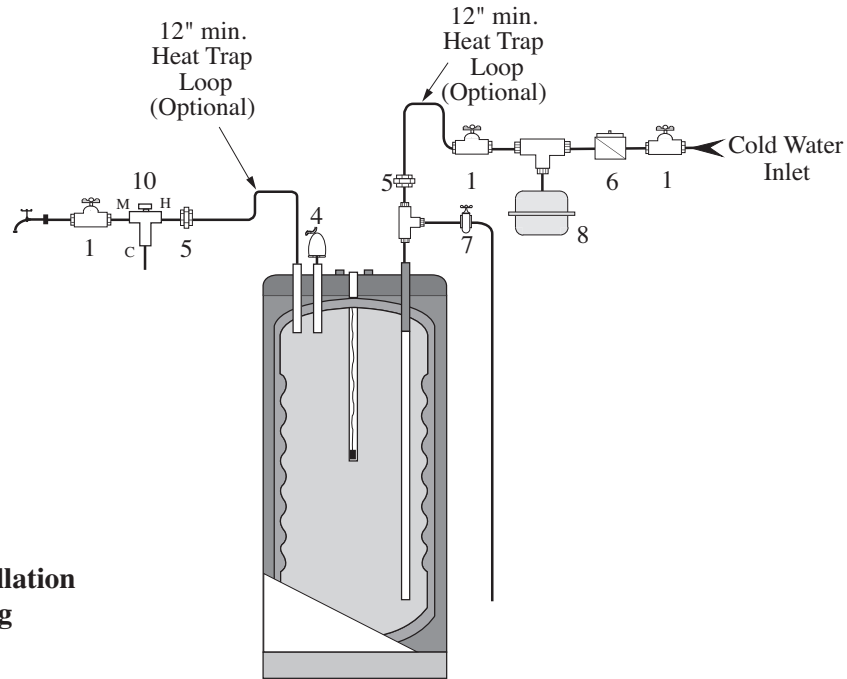
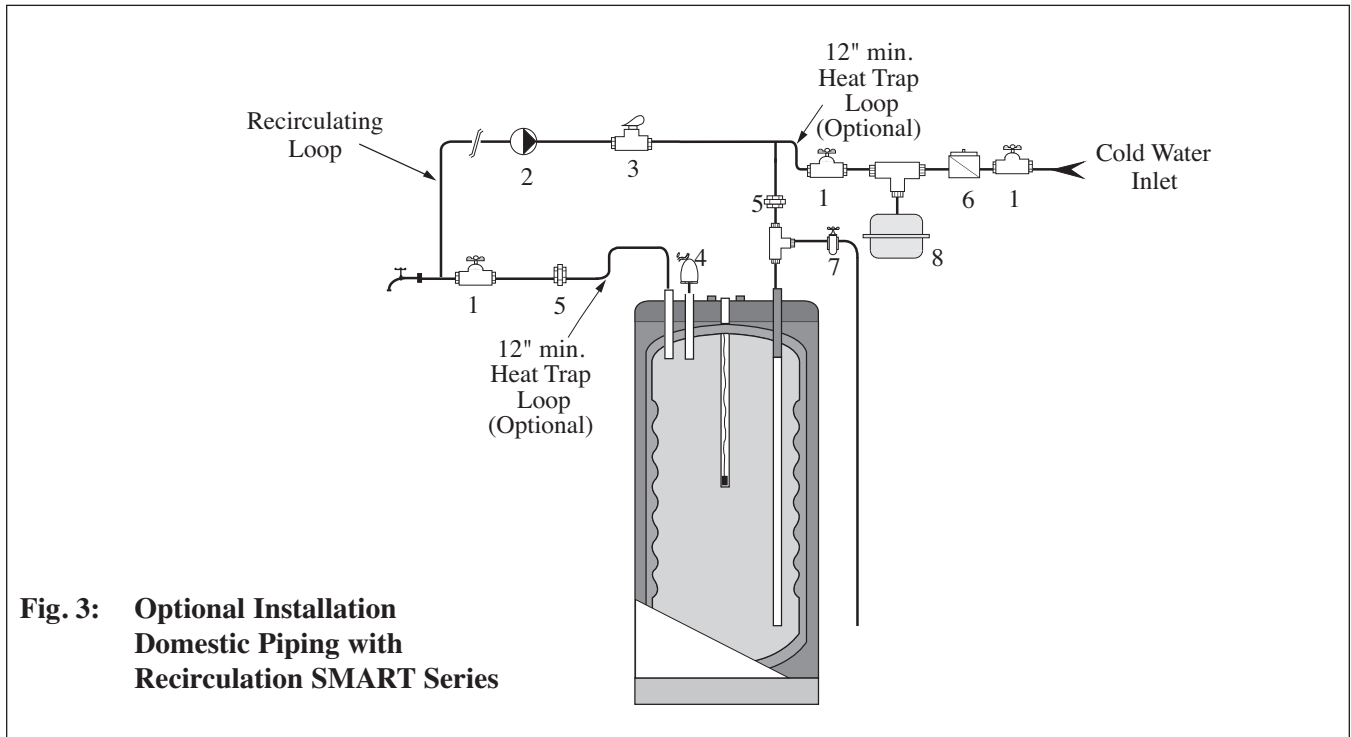

Fig. 1: Standard Installation Domestic Piping SMART Series
Fig. 3: Optional Installation Domestic Piping with Recirculation SMART Series
- Install a tee connection at the domestic cold water inlet (Fig. 1 and 2 page 8 and Fig. 3 on page 9).
- Each tank should be piped with a drain as shown in Fig. 1.